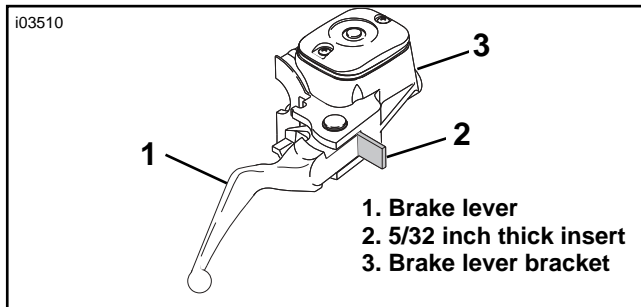

Figure 2. Install Cardboard Insert
5. See Figure 2. Squeeze the brake lever and place the insert between the brake lever and lever bracket.
26. See Figure 2. Remove the screws (1) that fasten the instrument assembly (2) to the riser assembly (3). Remove and retain the wire harness retainers (7) from the handlebar. Remove the handlebar (4) from the motorcycle.